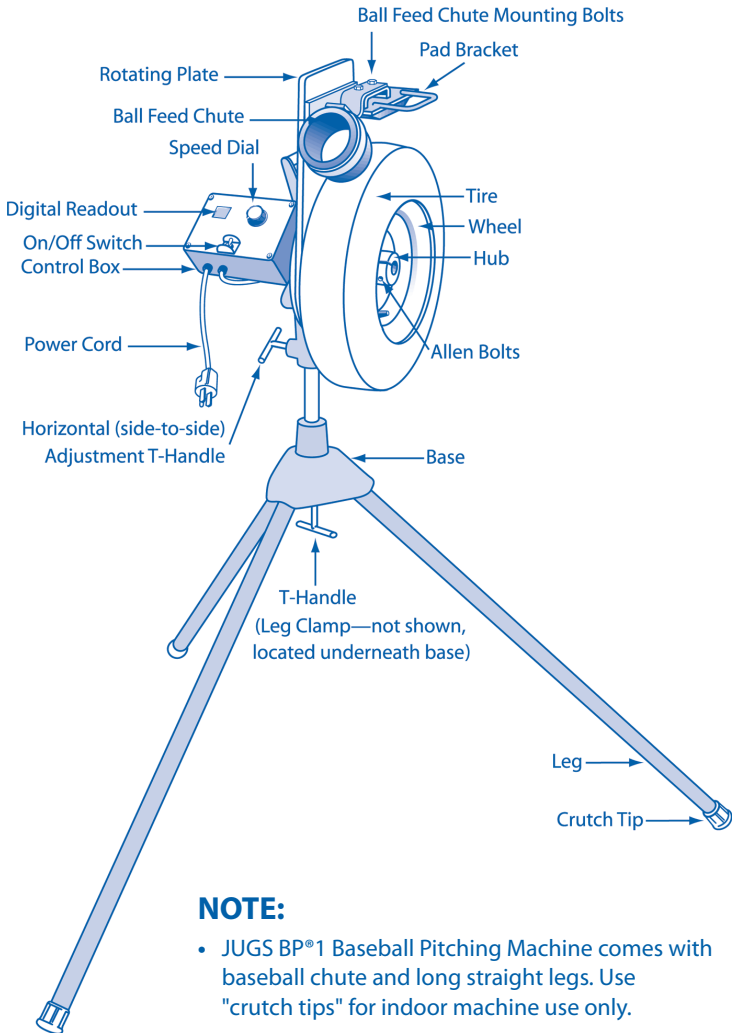

Figure 3
- Make sure you have all the parts (See Figures 3). If any parts are missing, do not operate the machine until the missing parts are replaced. Failure to do so could result in possible serious personal injury.